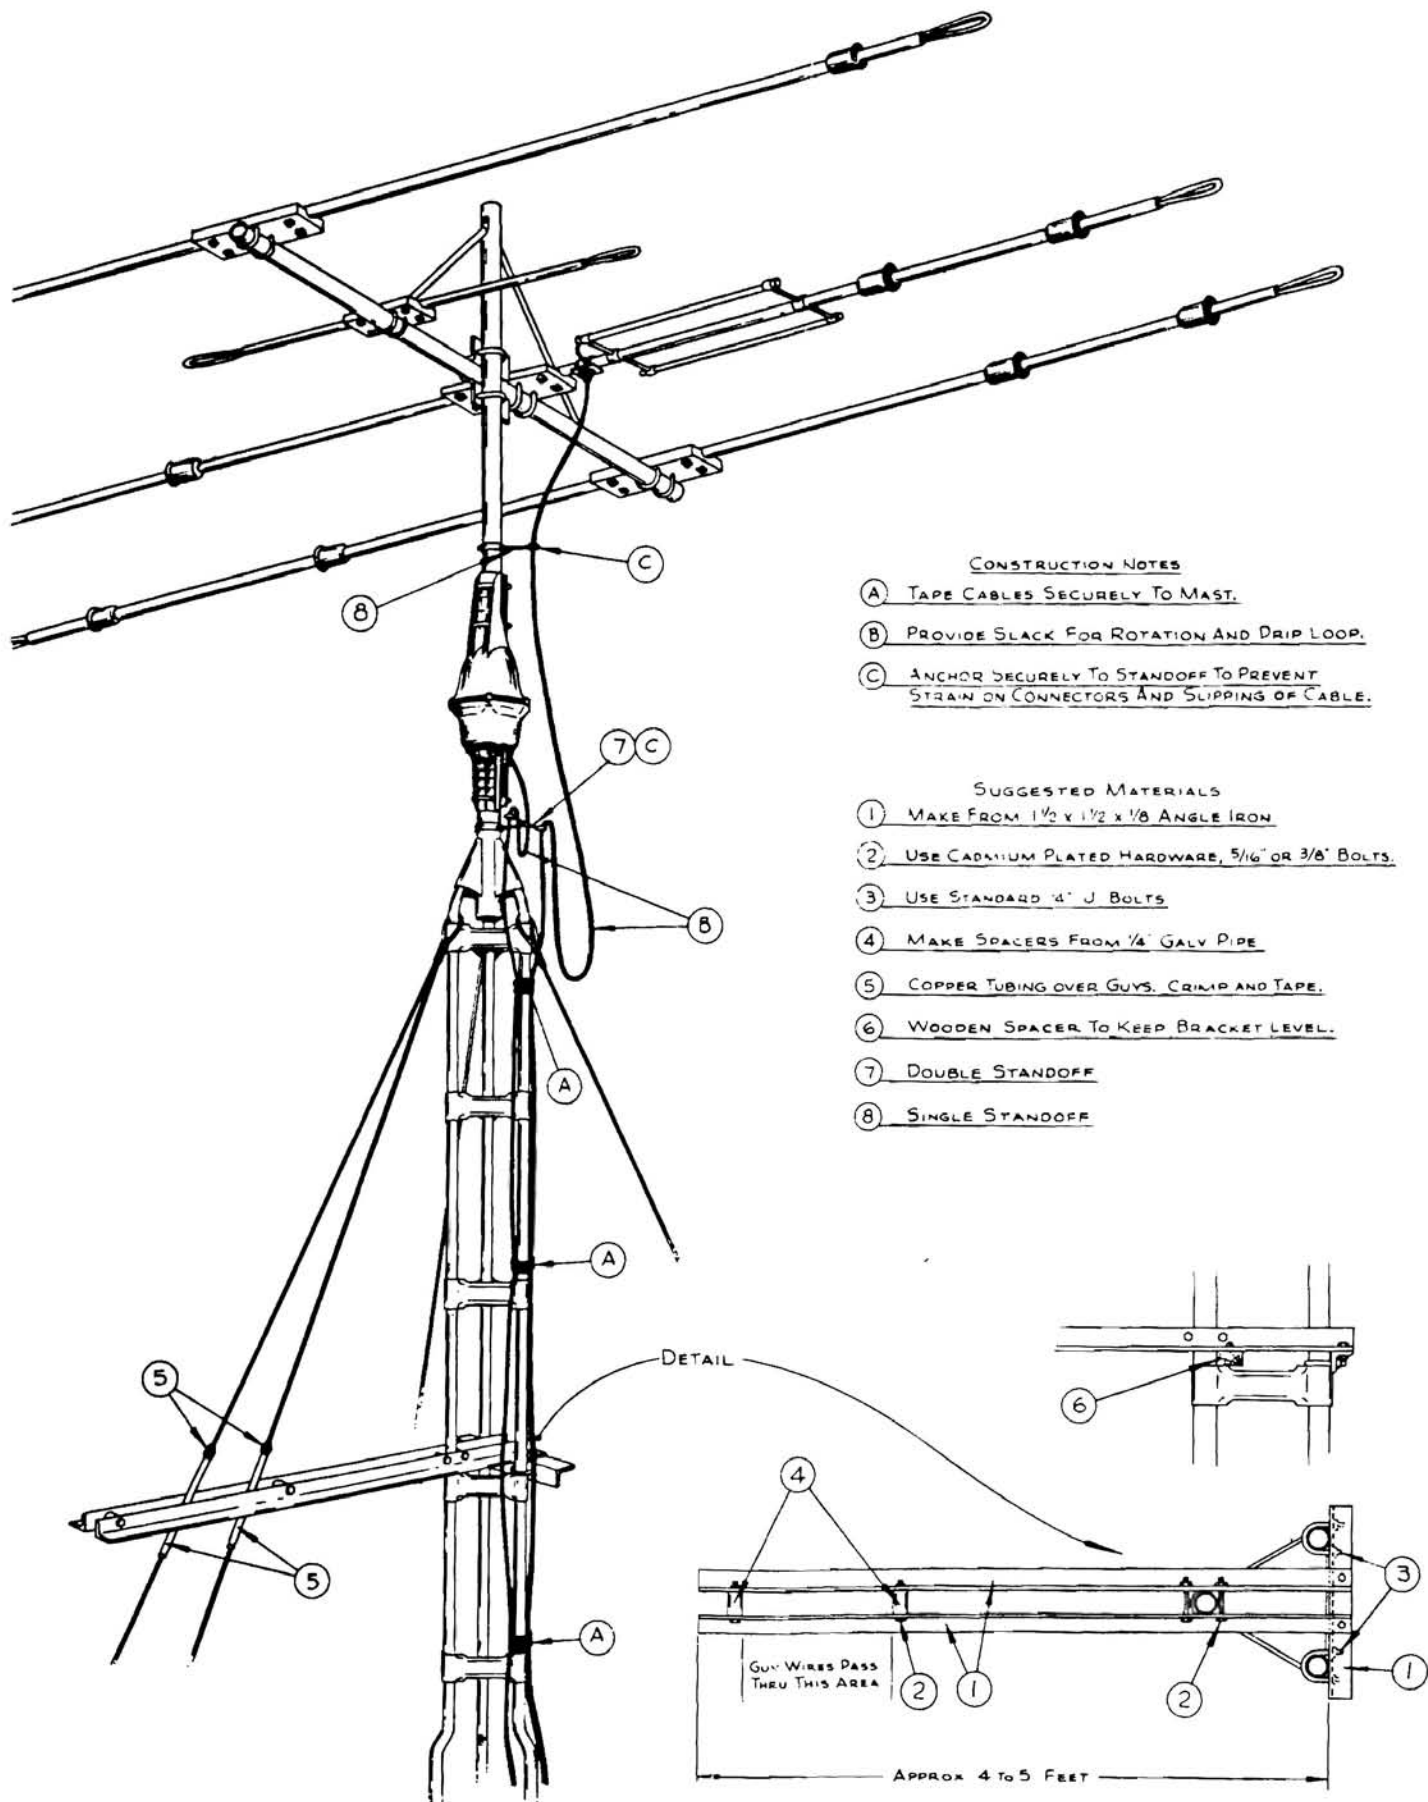

Fig. 2—Top Tower Installation with Torsion Bar
**Torsional Guying of Tower** Average height, well built towers, properly erected, carrying average antennas, are able to absorb the heavy twisting strain at the moment of stopping. Where the antenna is large or heavy, or the tower is tall or of light weight construction, a torsion bar or sway brace (as shown in Fig. 2 on the next page) should be rigidly attached near the top of the tower. Such an arrangement allows the double guy wires to absorb the shock of stopping, which would otherwise tend only to twist the tower on its base.